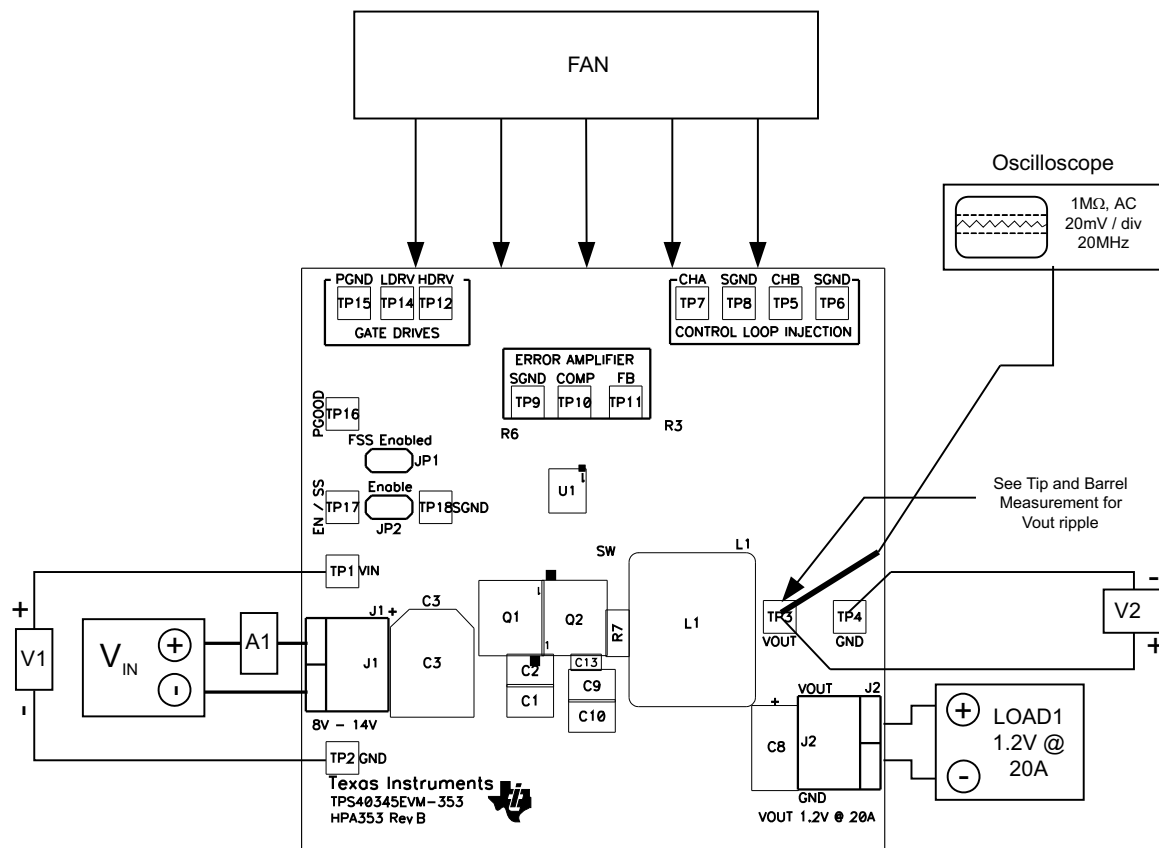

Figure 2. TPS40345EVM-353 Recommended Test Set-Up
Shown in Figure 2 is the basic test set up recommended to evaluate the TPS40345EVM-353. Note that although the return for J1 and JP2 are the same system ground, the connections should remain separate as shown in Figure 2.
2. Prior to connecting the dc input source, V_{IN} , it is advisable to limit the source current from V_{IN} to 4 A, maximum. Make sure V_{IN} is initially set to 0 V and connected as shown in Figure 2.
3. Connect VIN to J1 as shown in Figure 2.
4. Connect ammeter A1 between VIN and J1 as shown in Figure 2.
5. Connect voltmeter V1 to TP1 and TP2 as shown in Figure 2.
6. Connect voltmeter V2 to TP3 and TP4 as shown in Figure 2.
8. Place fan as shown in Figure 2 and turn on making sure to blow air directly across the evaluation module.